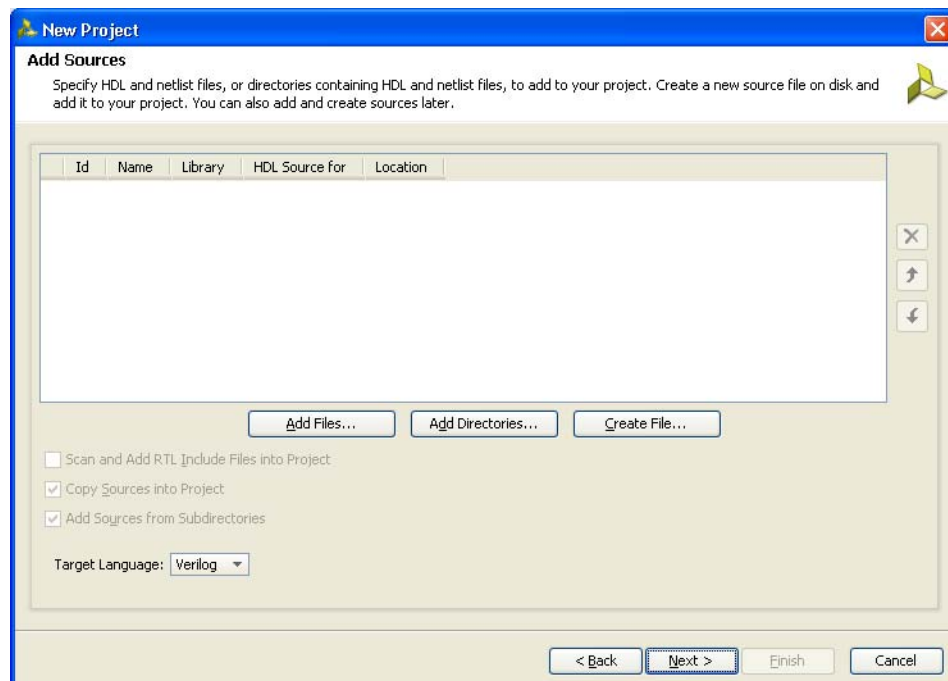

Figure 1-5: Add Sources
- Click **Next** to proceed to the **Add Sources** page (Figure 1-5). RTL files can be added to the project in this page. If the project was not created earlier, proceed to the next page.